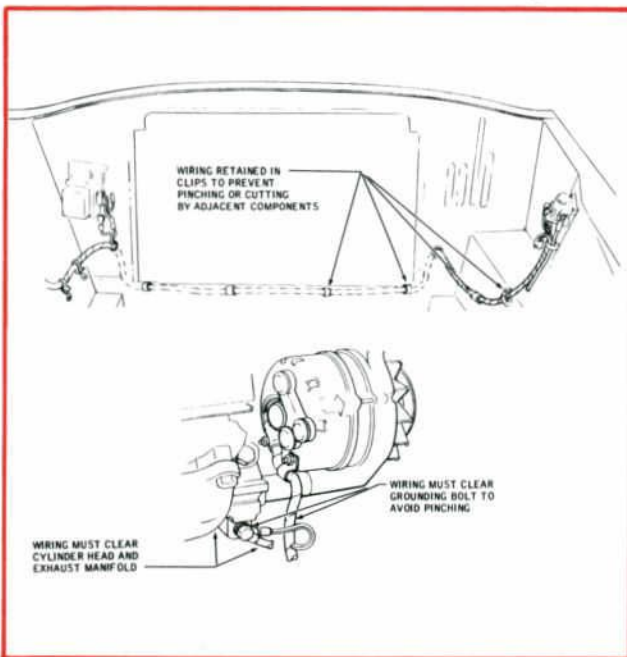

Figure 1—Alternator Regulator Wiring Harness Routing
- Check wiring behind alternator for cuts or burns at cylinder head or exhaust manifold on 8 cylinder engines. (Figure 1.)